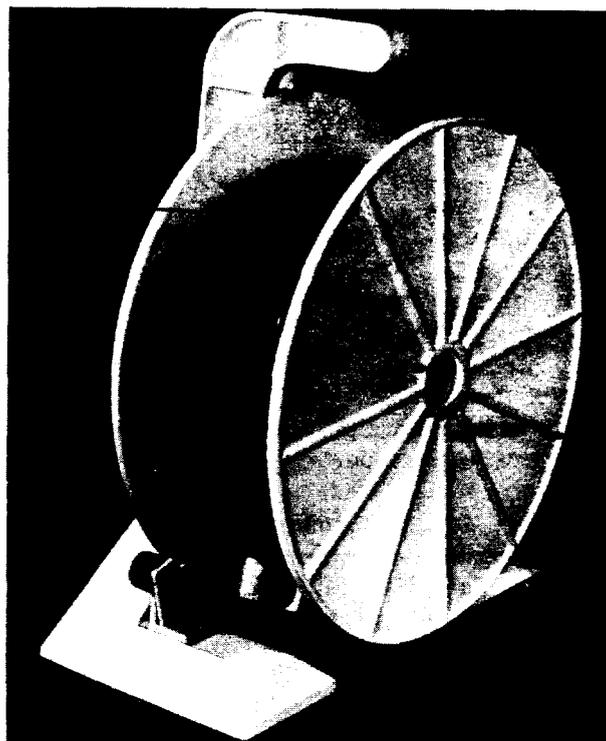
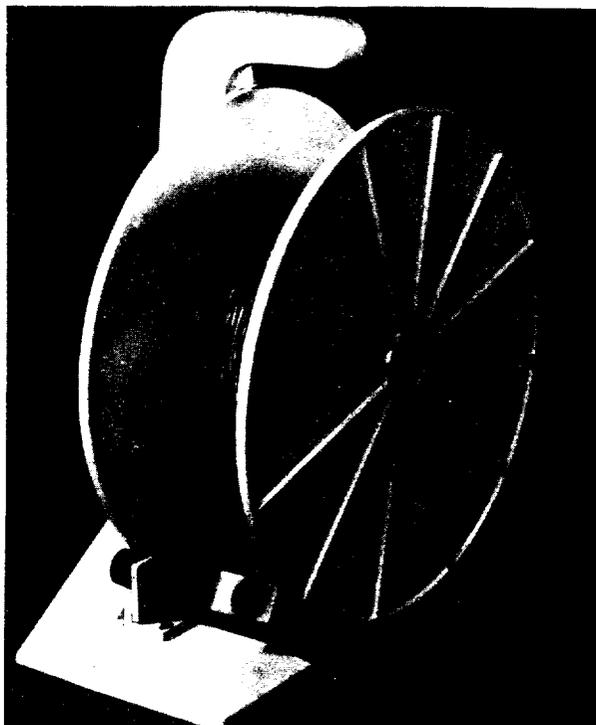

Fig. 1—KS-21955 Wire Reel
Fig. 3—KS-21955 Wire Reel With Brake Engaged
1.01 This section covers the piece-part data for the KS-21955 wire reel (Fig. 1) and the approved procedures for replacement of parts. The KS-21955 wire reel was designed to improve wire dispensing operations in telephone central offices. It is a direct replacement for the KS-8047 wire reel.
**3.04** To install wire on the KS-21955 wire reel, remove the outer flange by turning it clockwise. Place a coil of wire over the tapered ribs on the inner flange and replace the outer flange by turning it counterclockwise until it is tight. Insert the end of the wire through the wire guide on the brake without changing direction. Wire may be dispensed in either of two directions, over the reel to the left or under the reel to the right. As wire is withdrawn, the brake releases, and the reel turns counterclockwise as shown in Fig. 1. Slack in the wire causes the brake to activate as the brake arm drops and engages the rim of the inner flange as shown in Fig. 3. The momentum of the inner flange forces the brake shoe in the direction of rotation, which causes a wedging action between the brake and the inner flange resulting in the stopping of the reel. Since the outer flange is independent, it tends to continue rotating in a counterclockwise direction, thereby tightening the wire coil. This self-tensioning feature maintains pressure on the wire coil as it is used and prevents entanglement otherwise caused by loose wire coils.